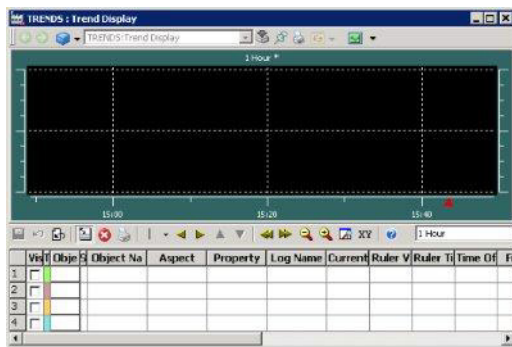

Figure 13. Trend Display window
2. Double-click Trend Display aspect. The **Trend Display** window appears as shown in Figure 13